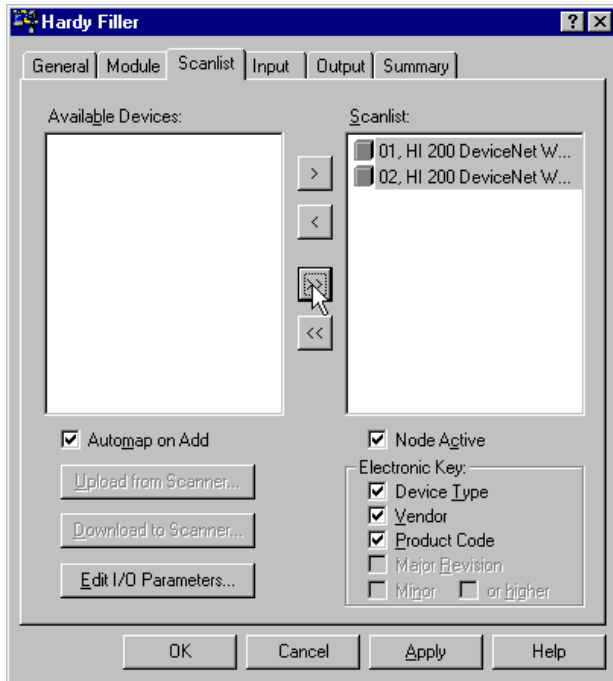

FIG. 129: SCANLIST PAGE/SCANLIST
Step 5. Click on the double arrow pointing to the Scanlist to add the devices to the scanlist. (See Fig. 129)